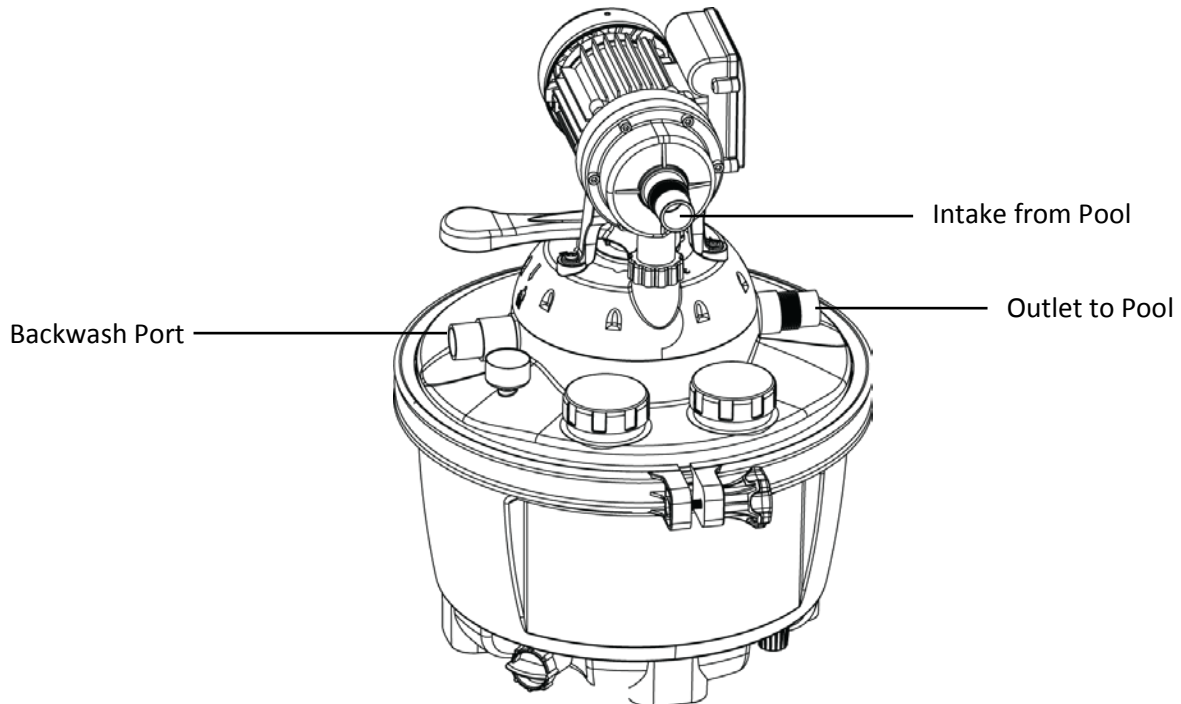

Figure 5
5. Attach the intake and return hoses using the hose clamps provided (See figure 5).